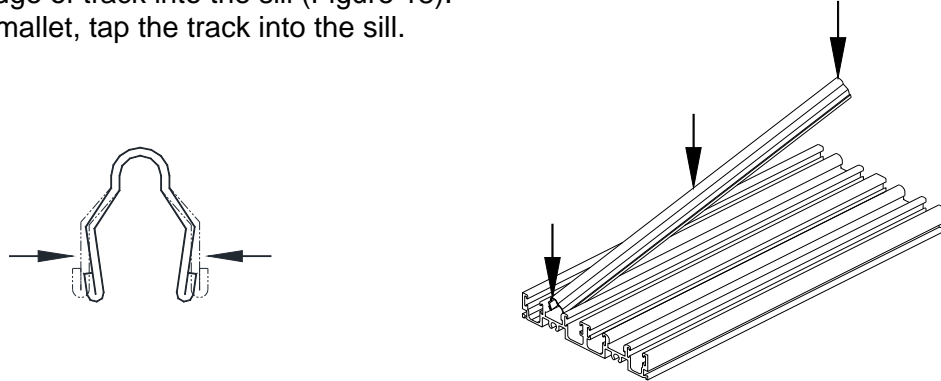

Figure 18:
2. Push tapered edge of track into the sill (Figure 18).